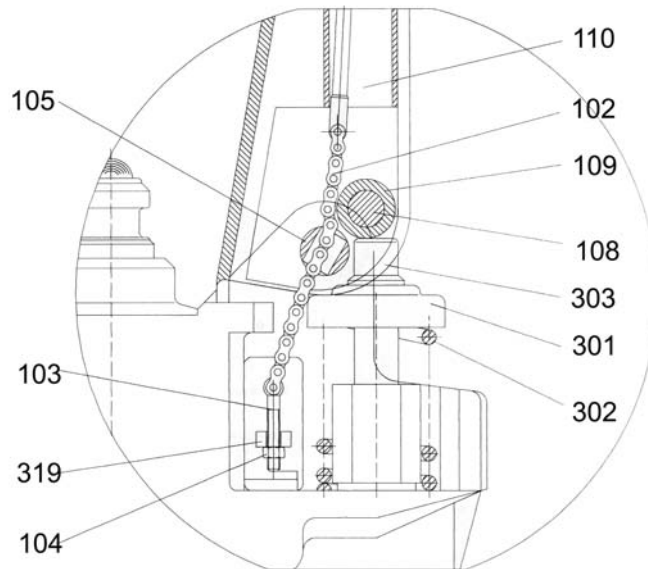

Fig. 3
2.2 Let control handle(117) to the '**LOWER**' position, then pass the adjusting nut(104), adjusting bolt(103) and chain(102Z) through the hole of axle(105) with your hand (See fig. 3).